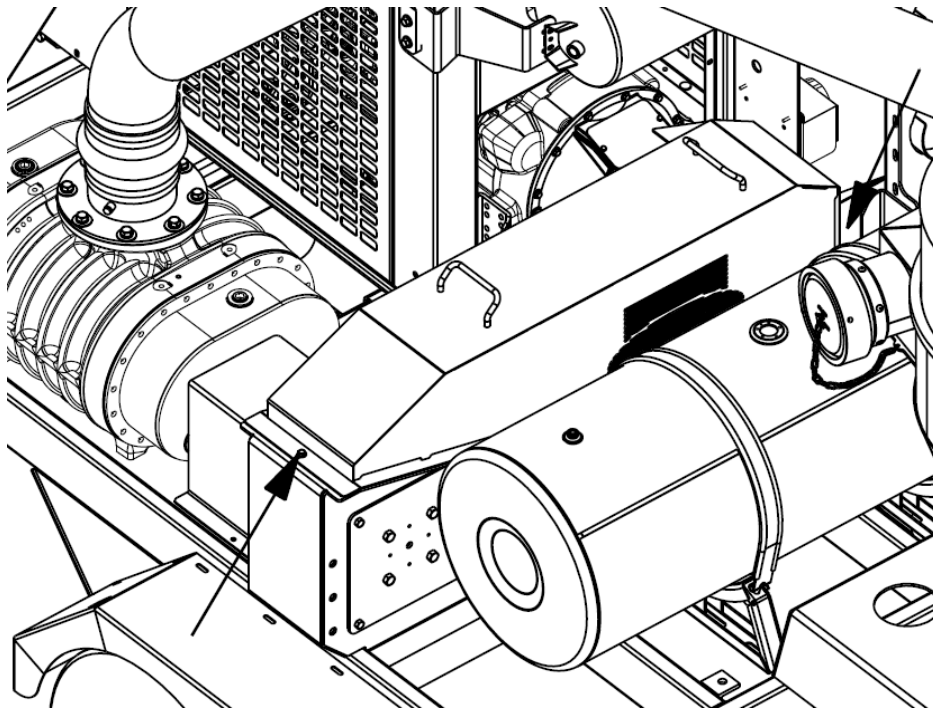

Figure 1: Belt guard fasteners
3. Remove the bolts securing the belt guard in place and remove the belt guard, reference **Figure 1**. Place the belt guard to the side in an area where it will not obstruct access to the pulleys or belts.